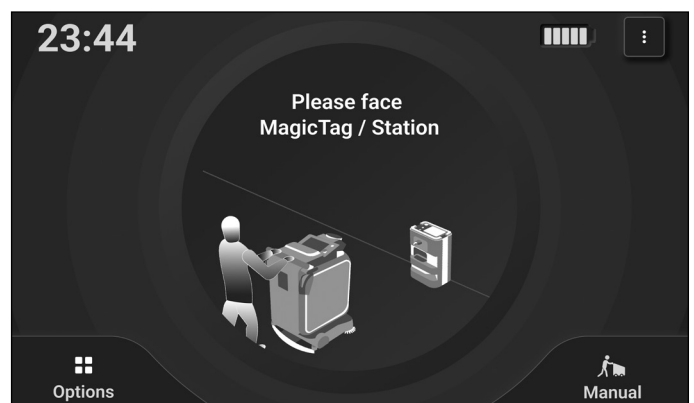

Figure 39
1. On the Home Page (**Fig. 39**), push the machine near the MagicTag (~30 cm), so that the robot is facing it.